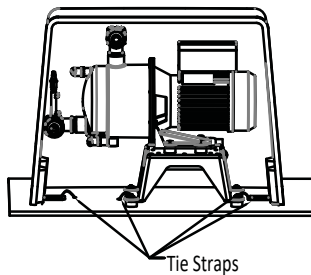

Figure 10
- Remove the preassembled AEC assembly from the carton and detach all components from the packing board by removing the tie straps. See Figure 10